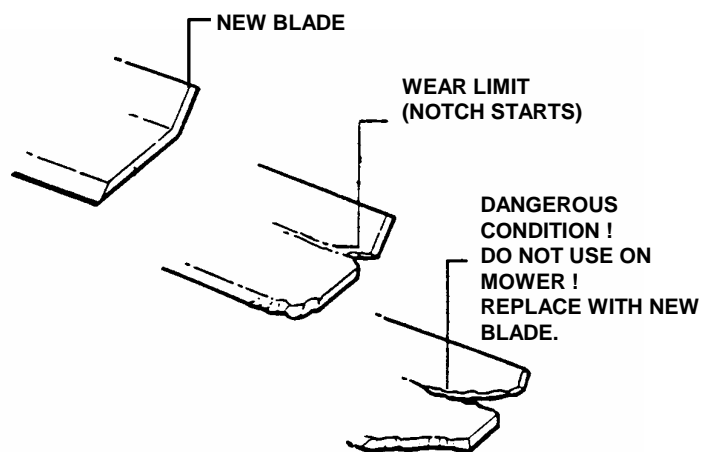

FIGURE 4.1
1. Inspect blade frequently for signs of excessive wear or damage. See Figure 4.1.
2. Replace the blade if it is badly chipped, bent, noticeably out of balance or has cracks or notch in either tip. See Figure 4.1. Replace with new blade.
6. Reinstall blade. See Figure 4.1. Check torque of blade retaining cap screw. Recommended torque should be 40 ft. lbs.